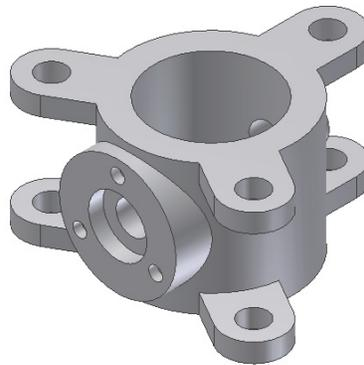

Figure 7-84 Model after creating all features
2. Right-click on **Extrusion3** (second join feature) and then choose the **Unsuppress Features** option from the shortcut menu to unsuppress the second join feature also. The model after creating all features is shown in Figure 7-84.